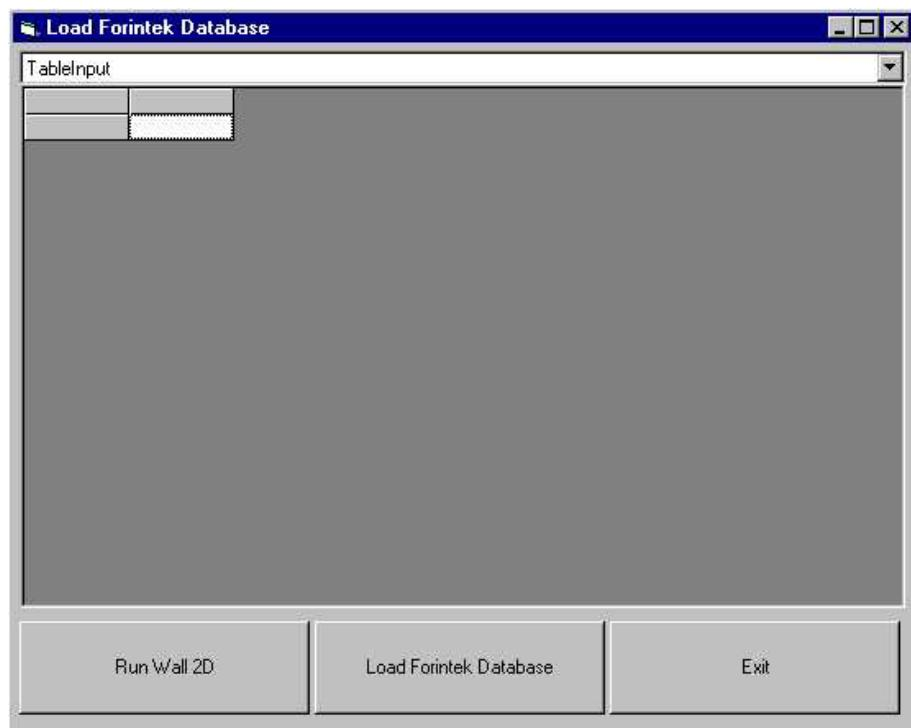
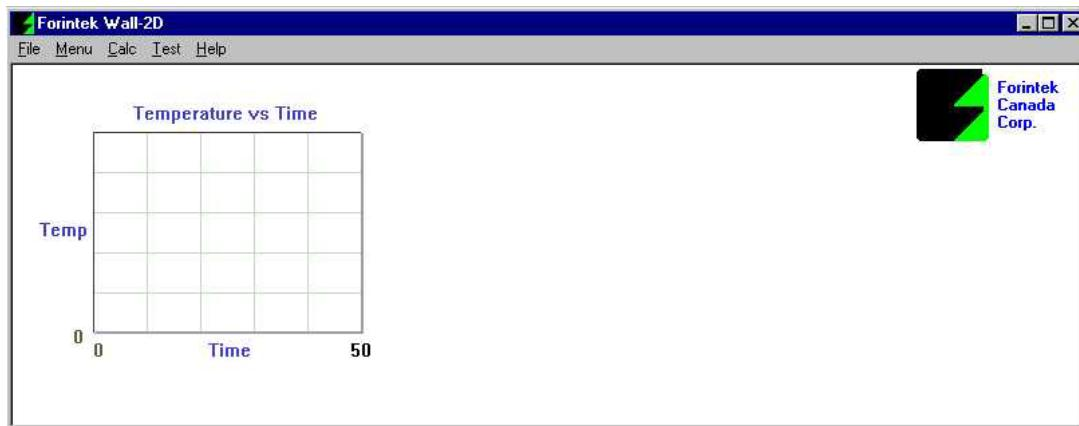
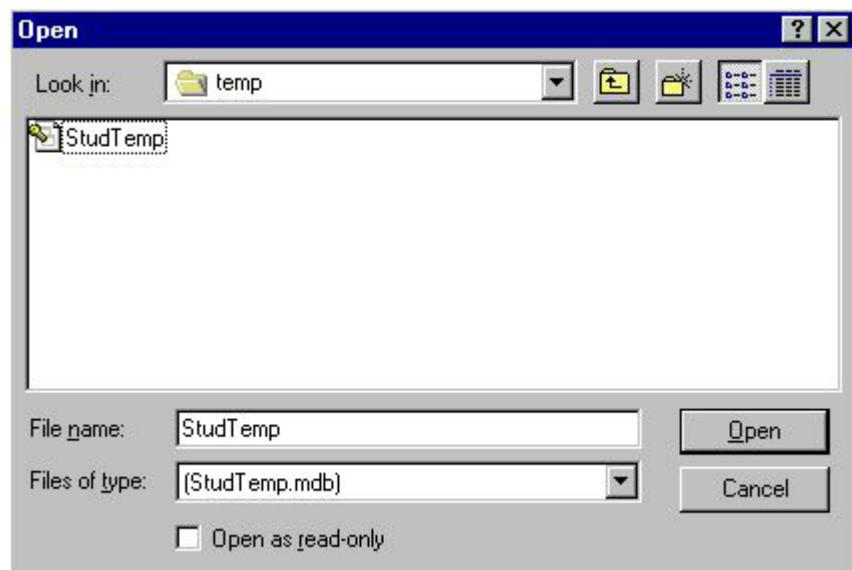

Figure 3.7. Heat Transfer Model / Forintek Database
Figure 3.8. Forintek Wall 2D
Figure 3.9. Load Forintek Database
2. The window (Figure 3.7) will appear. The Run Wall-2D option will load the heat transfer program (Figure 3.8), and the Load Forintek Database option will allow the user to import saved time-temperature data from a previous run of the heat transfer model (Figure 3.9).